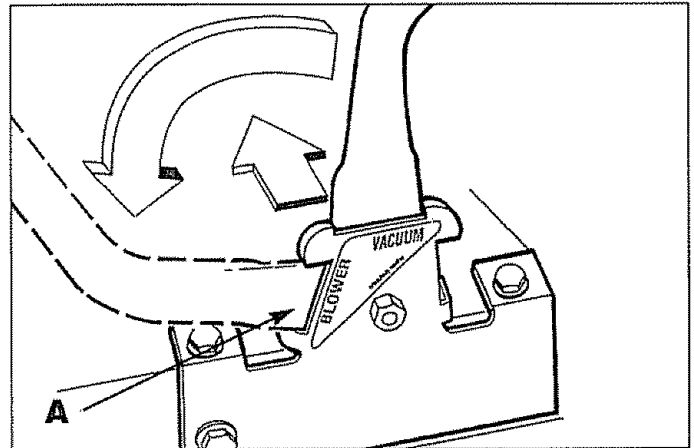

Figure 7: Adjust handlebars to "blower" position.
2. Release the handlebars ends in the "blower" notches (A). See Figure 7.